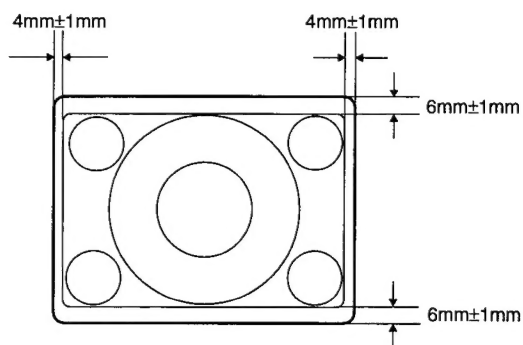

Figure 3
3. Adjust U.S V-SIZE control (R411) until picture height becomes $6\text{ mm} \pm 1\text{ mm}$ shorter than picture tube screen at top and bottom as shown in figure 3.
3. Adjust U.S H-SIZE control (R566) until picture width becomes $4\text{ mm} \pm 1\text{ mm}$ shorter than picture tube screen at both sides as shown in figure 3.